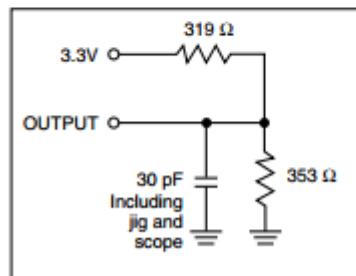

Figure 1.
1. Test conditions assume signal transition times of 3 ns or less, timing reference levels of 1.5V, input pulse levels of 0 to 3.0V and output loading specified in Figure 1.
Output Load	See Figures 1 and 2
- Test conditions assume signal transition times of 3 ns or less, timing reference levels of 1.5V, input pulse levels of 0 to 3.0V and output loading specified in Figure 1.